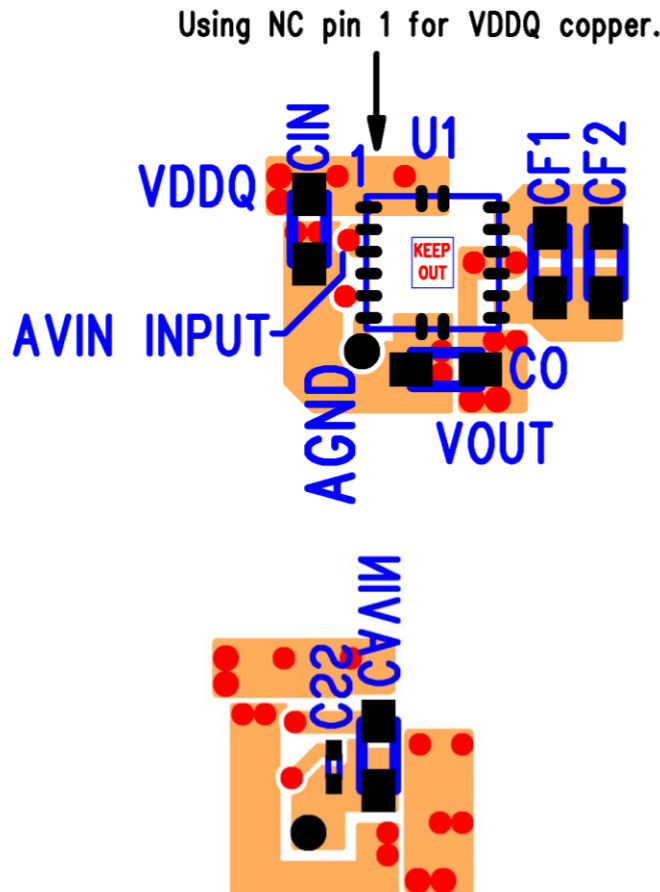

Figure 9: Typical Top Side and Bottom Side Layout Recommendation (Top View)
Figure 9 shows the critical components along with top and bottom traces of a recommended minimum footprint EV1320QI layout with ENABLE tied to VDDQ. Alternate enabling configurations, and the POK pin would have to be connected and routed according to the specific customer application. Please see the Gerber files at [www.altera.com/enpirion](http://www.altera.com/enpirion) for exact dimensions and the internal layers.
**Recommendation 5:** AVIN is the power supply for the internal control circuits. It should be connected to the 3.3V bus at a quiet point. A 10 $\mu$ F bypass capacitor (shown on the backside in Figure 9) is needed on the AVIN node. If the AVIN supply is noisy, an optional 1 $\Omega$  resistor is recommended in series with AVIN. See Figure 6.
**Recommendation 7:** The soft-start capacitor CSS and the AVIN capacitor CAVIN are placed on the back side in Figure 9 so that the input PGND trace is not compromised.